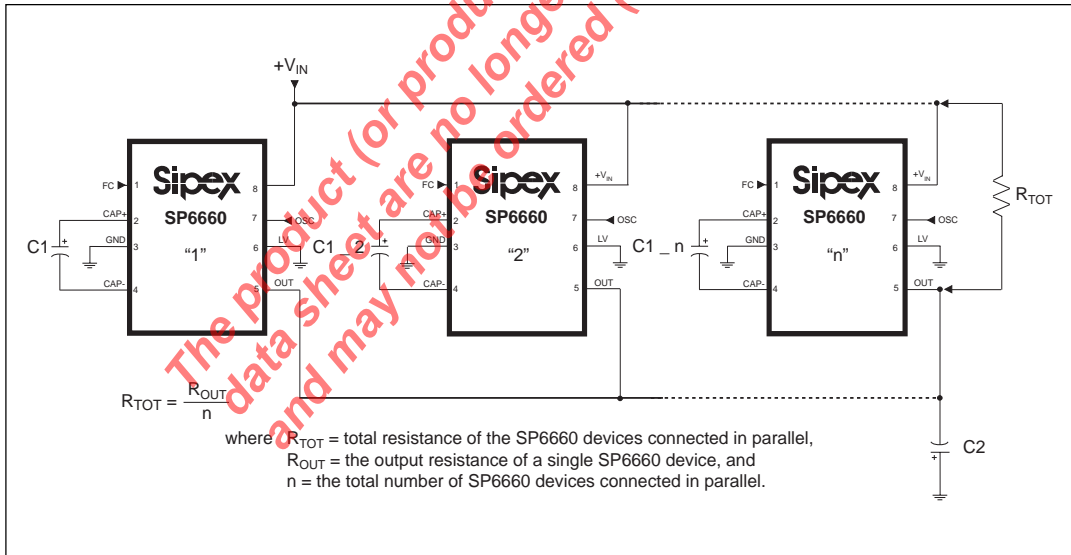

Figure 26. SP6660 Devices Connected in Parallel to Reduce Output Resistance
**SP6660** devices can be connected in parallel to reduce the total output resistance. The approximate total output resistance,  $R_{\text{TOT}}$ , of the multiple devices connected in parallel is equal to the output resistance of an individual **SP6660** device divided by the total number of devices connected. Refer to *Figure 26* for the circuit connecting multiple **SP6660** devices in parallel. Note that only the charge pump capacitor value of C1 is multiplied respectively by the number of **SP6660** connected in parallel. A single capacitor C2 at the output voltage  $V_{\text{OUT}}$  of the "nth" device connected in parallel serves all devices connected.